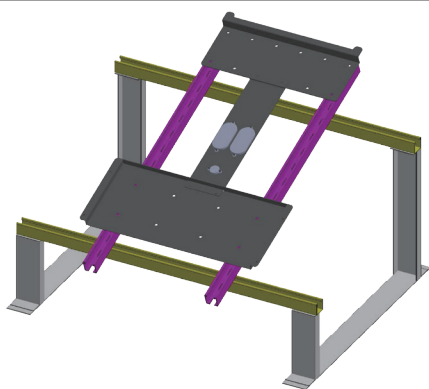

Figure 3-6: Wall mount fixed prior to inverter
1. Install the wall mount bracket to the rack system prior to installing the inverter. Do not allow bending of the bracket. See **Figure 3-6**.